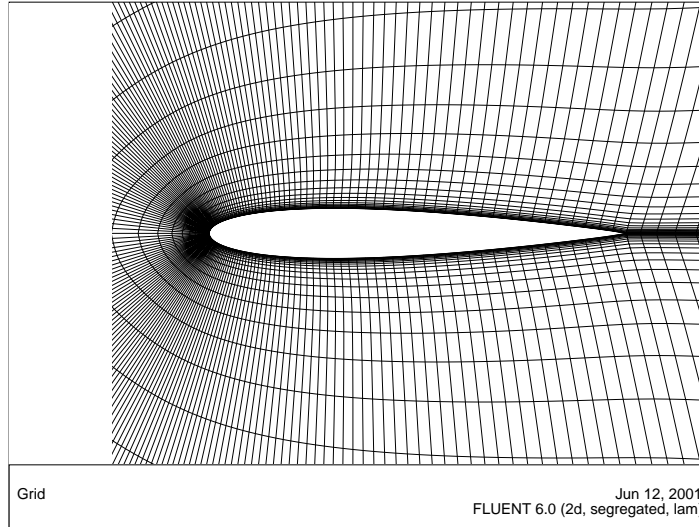

Figure 3.3: The Grid After Zooming In on the Airfoil
- (b) Use the middle mouse button to zoom in on the image so you can see the mesh near the airfoil (Figure 3.3).